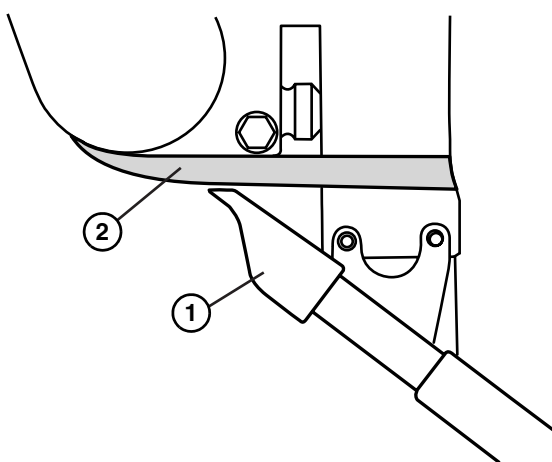

Figure 31
Apply minimal pressure between the scraper (Figure 31, item 1) and the belt (Figure 31, item 2).